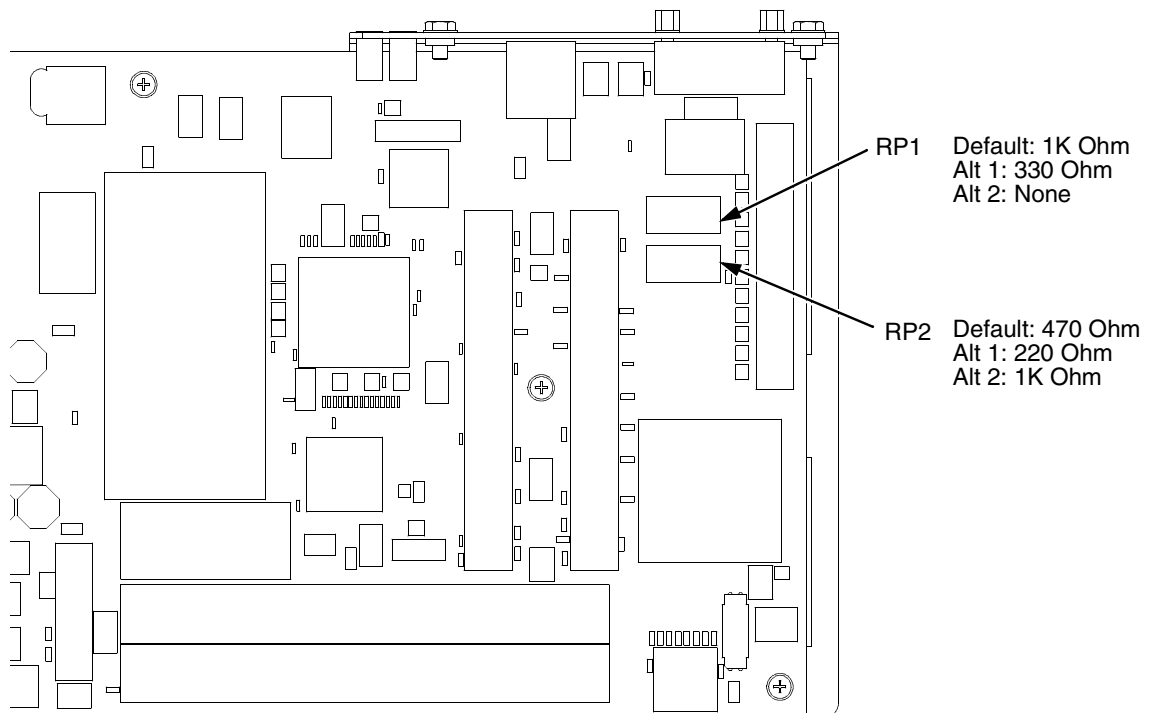

Figure 37. Terminating Resistors, V5 Controller Board, Removal/Installation
For parallel interface configurations, the printer is equipped with 470 Ohm pull-up terminating resistors and 1K Ohm pull-down terminating resistors on the controller board. These are suitable for most applications. (See Figure 37, page 243.)
3. Locate the terminating resistor packs. (See Figure 37, page 243.)
1. Using a chip installation tool, install the resistor packs in the correct socket. (See Figure 37, page 243.)